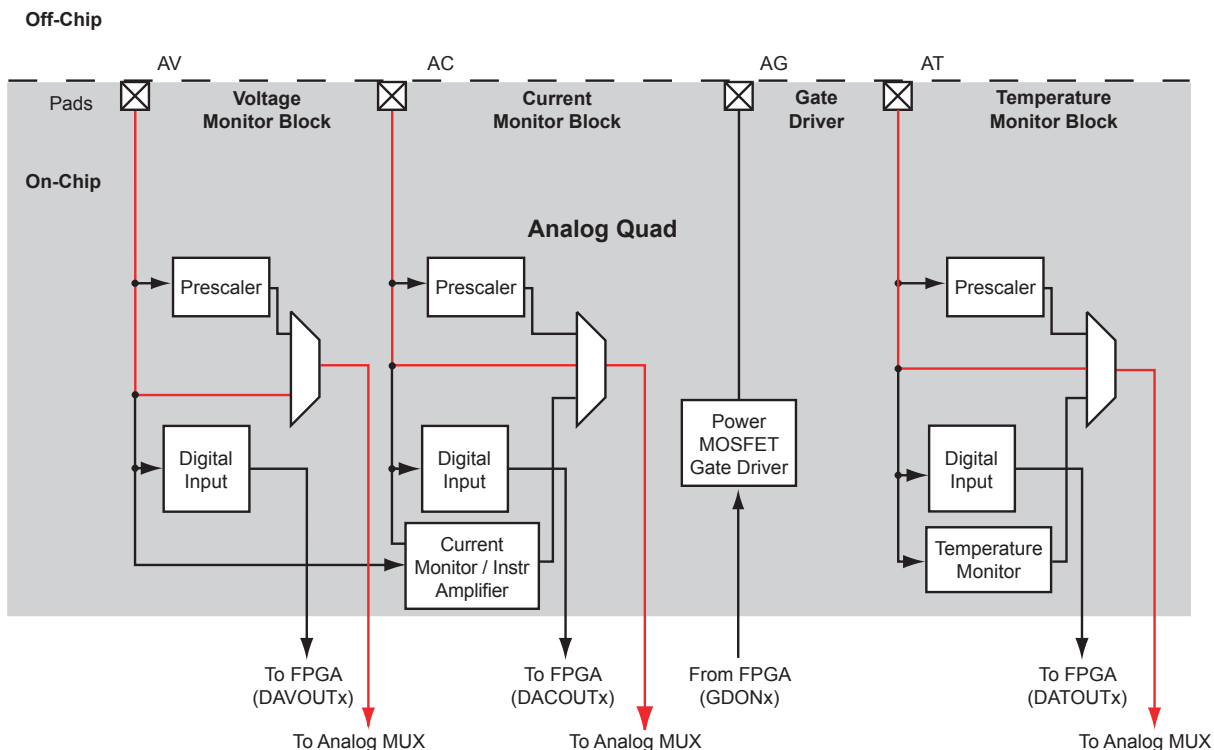

Figure 2-65 • Analog Quad Direct Connect
The Fusion Analog Quad offers a robust set of voltage-monitoring capabilities unique in the FPGA industry. The Analog Quad comprises three analog input pads—Analog Voltage (AV), Analog Current (AC), and Analog Temperature (AT)—and a single gate driver output pad, Analog Gate (AG). There are many common characteristics among the analog input pads. Each analog input can be configured to connect directly to the input MUX of the ADC. When configured in this manner (Figure 2-65), there will be no prescaling of the input signal. Care must be taken in this mode not to drive the ADC into saturation by applying an input voltage greater than the reference voltage. The internal reference voltage of the ADC is 2.56 V. Optionally, an external reference can be supplied by the user. The external reference can be a maximum of 3.3 V DC.